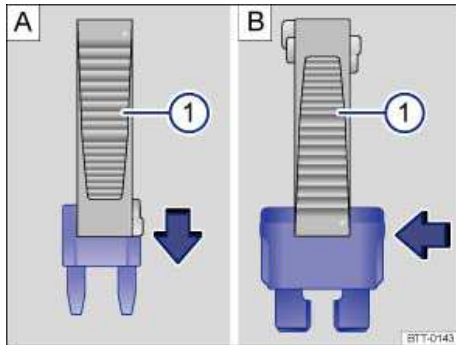

Fig. 217 Removing or inserting a fuse using the plastic tweezers.
- If needed, remove the plastic tweezers (1) from the fuse box cover.
- For *small fuses*, slide the tweezers ⇒ fig. 217 \(1\) onto the fuse from the top **A**.
- For *larger fuses*, slide the tweezers (1) onto the fuse from the side **B**.